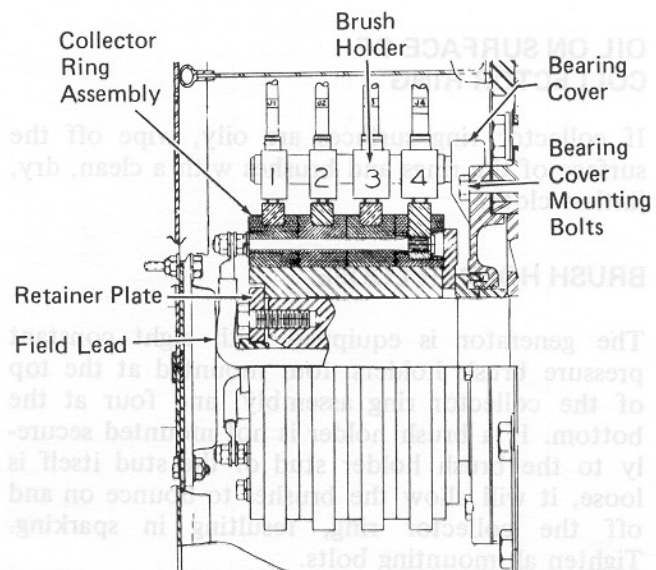

Fig. 4 - Collector Ring And Brush Removal
5. Disconnect field leads from collector ring studs, Fig. 4.
- Remove bearing cover mounting bolts, Fig. 4, and remove bearing cover. Use a rawhide mallet or similar tool to remove cover and gasket.